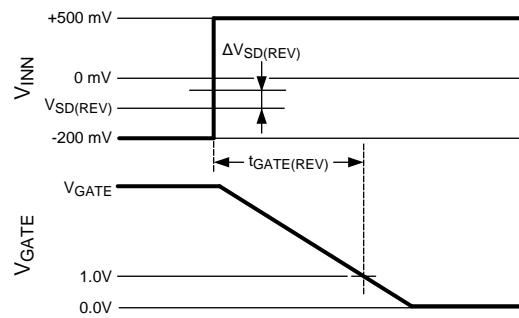

Figure 6. Gate Off Timing for V_{SD(REV)} Transition
(1) Time from V_{INN} voltage transition from -200 mV to $+500\text{ mV}$ until Gate pin voltage falls to $\leq 1.00\text{V}$. See Figure 6